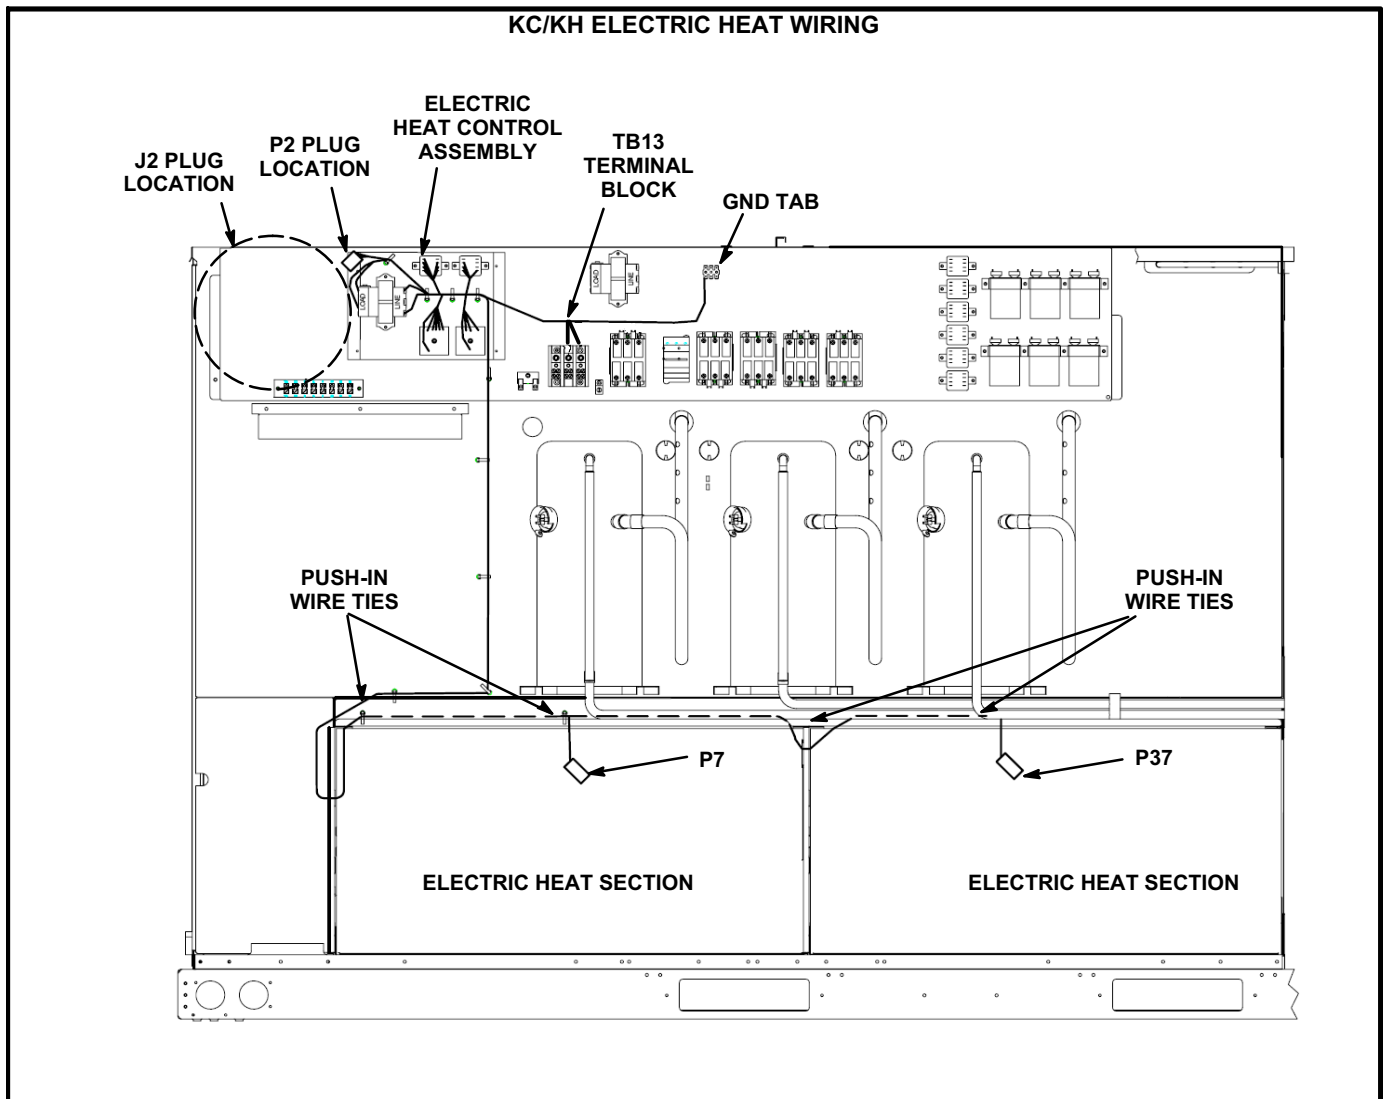

FIGURE 2
Install electric heat control module in control area as shown in figure 2. Secure with #8 thread forming screws (provided).
Refer to figure 2.
- 5- Route wires marked "P7" and "P37" to the location shown in figure 2 and secure harness with wire ties provided.